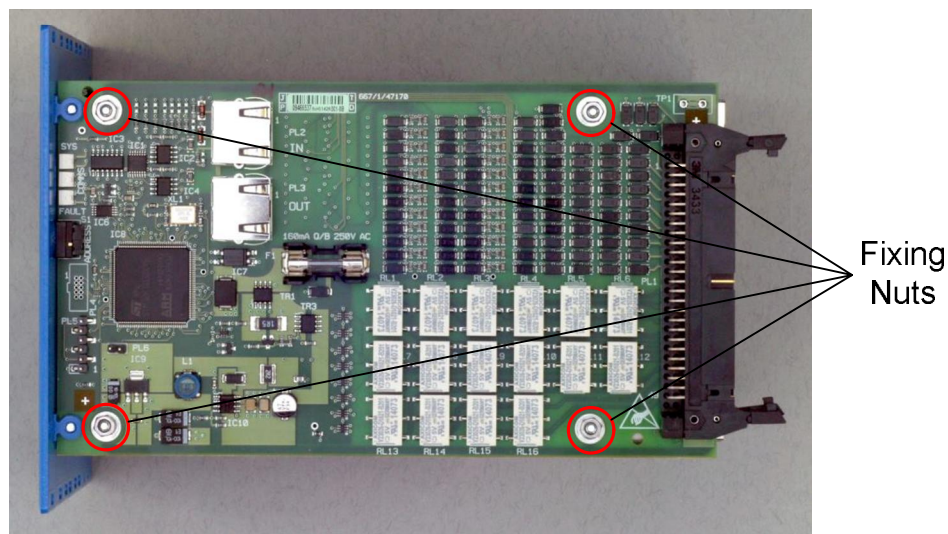

Figure 20 – I/O Board Fixings
2. Remove the four nuts and spring washers shown in Figure 20 below.